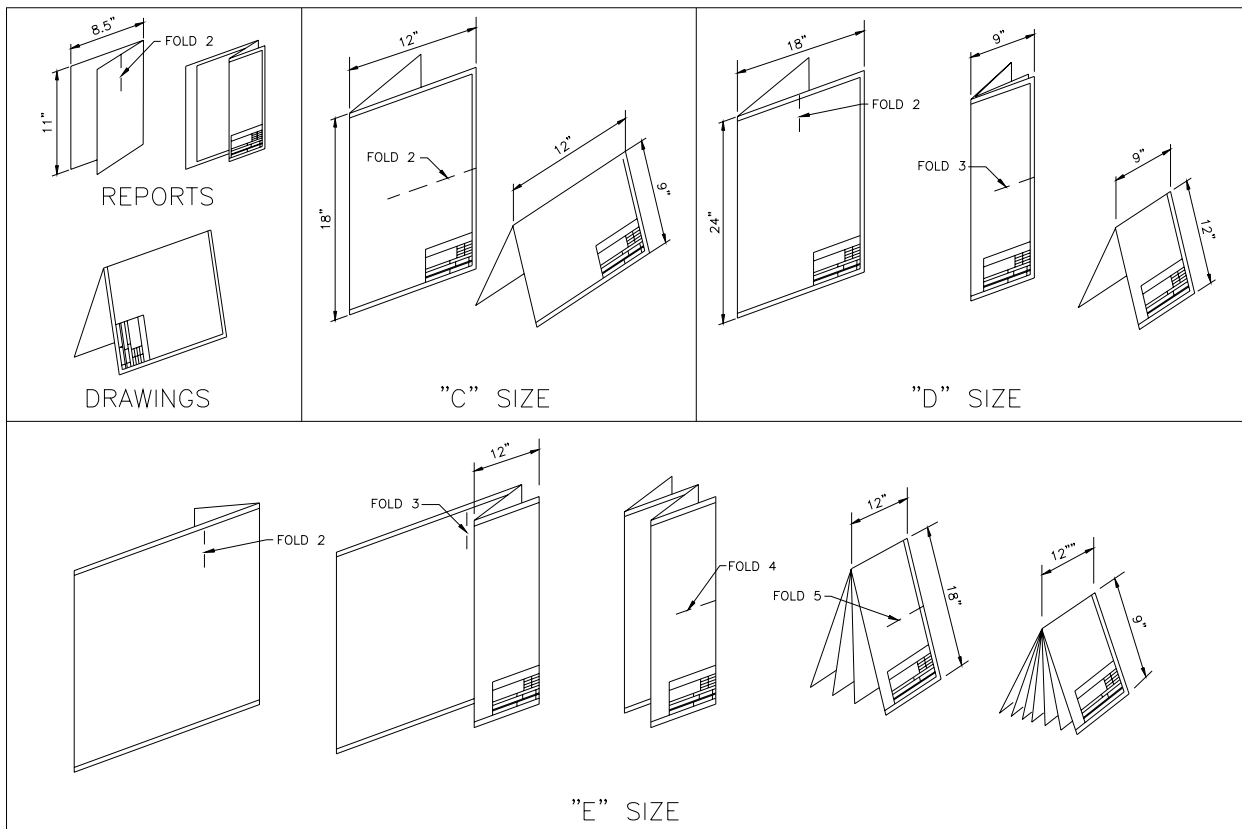

Figure 216-1
A. *Guidance: Drawing sizes "B" through "E" and roll sizes are normally folded after printing to 8 1/2 x 11 inches to fit standard-size file folders and filing cabinets. See Figure 216-1*